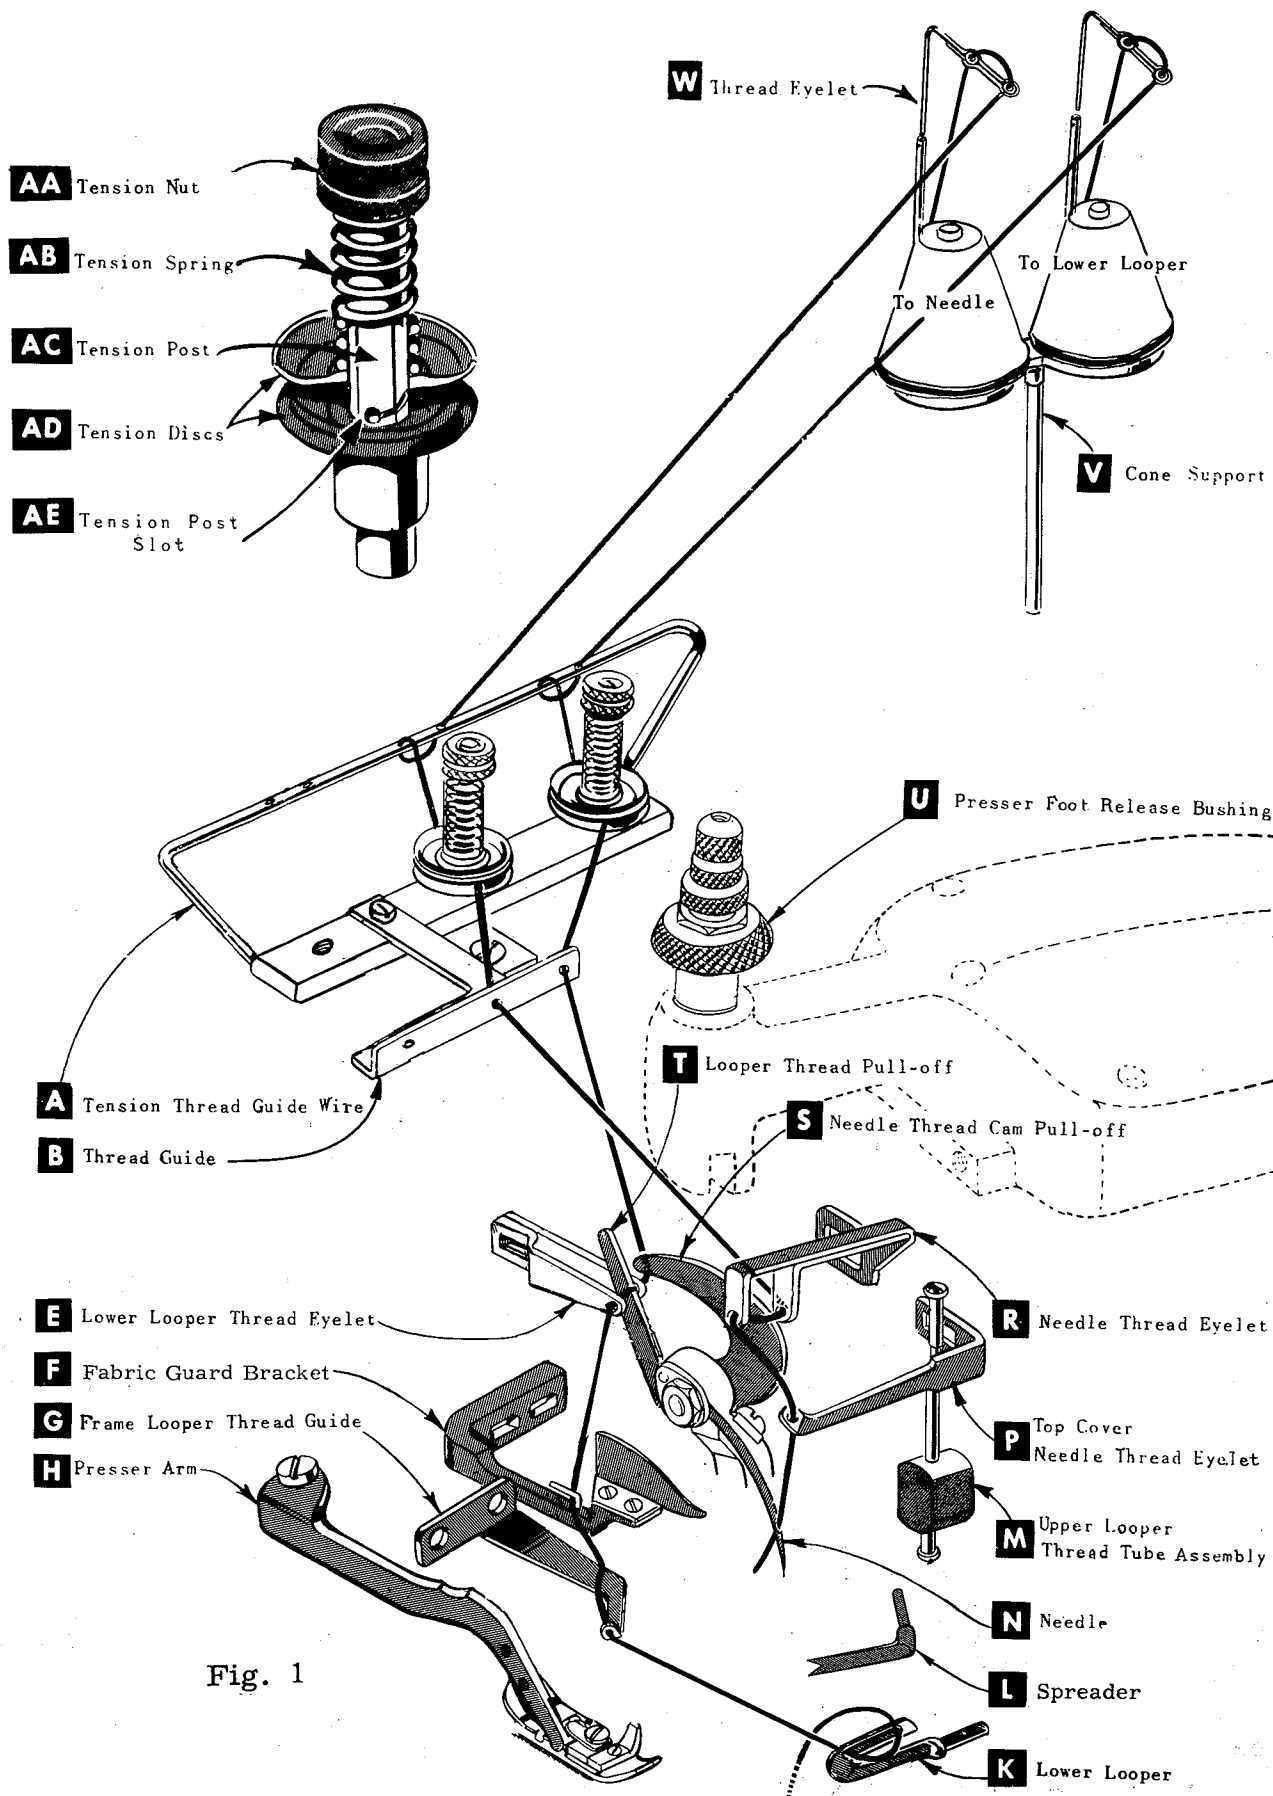

Fig. 1
Release pressure on presser foot by turning presser foot release bushing (U, Fig. 1) and swing presser arm (H) out of position. Turn handwheel in operating direction until needle is at its lowest point of travel. Using hexagonal socket wrench No. 21388 AS, furnished with machine, loosen needle clamp nut about 1/4 turn. Again turn handwheel until needle is at high position; withdraw needle.
After thread comes from cone on thread stand (V, Fig. 1), it is brought up through back thread eyelet, then down through front thread eyelet (W). Next, it is threaded through each pair of holes in tension thread guide wire (A), down right hand hole and up through left hand hole. Then thread continues between tension discs (AD) through slot (AE), and on through thread guide (B).
Only parts involved in threading are shown in threading diagram (Fig. 1). Parts are placed in their relative positions for clarity.
Double end of thread and lead it through both eyes of lower looper thread eyelet (E, Fig. 1) from right to left. Note thread must pass in front of looper thread pull-off (T). Lead thread behind fabric guard (F) and through frame looper thread guide (G). Turn handwheel in operating direction until heel of lower looper (K) is all the way to the left, then thread through both eyes from left to right. Left eye of lower looper can be threaded easily if tweezers are in left hand.
Turn handwheel in operating direction until needle (N, Fig. 1) is at its highest position. Insert needle thread from right to left, through both eyes of needle thread eyelet (R), under neck of top cover casting, then down through hole in top cover needle thread eyelet (P). Thread needle from front.
The amount of tension on needle and looper threads is regulated by two knurled tension nuts (AA, Fig. 1). Tension on threads should be only enough to secure proper stitch formation.
While sewing on material, check needle thread control as follows: Usually all needle thread is drawn on needle down stroke. At top of needle stroke, thread should be just tight enough to feed chain off stitch tongue. Stitch tends to pull down slightly if excessive thread is pulled on the up stroke. With needle at bottom of stroke, position needle thread eyelet (R, Fig. 1) so that needle thread cam pull-off (S) just contacts needle thread.
With material under presser foot, set lower looper thread eyelet (E, Fig. 1) back and down far enough so thread is a little slack when spreader reaches its extreme left position. Looper thread eyelet (E) should be about horizontal.